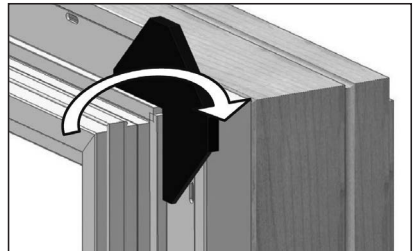

FIG. 11a
- a. Apply the adhesive side of the pad to the outside of the nailing fin corner and fold over the nailing fin. (Fig. 11a)